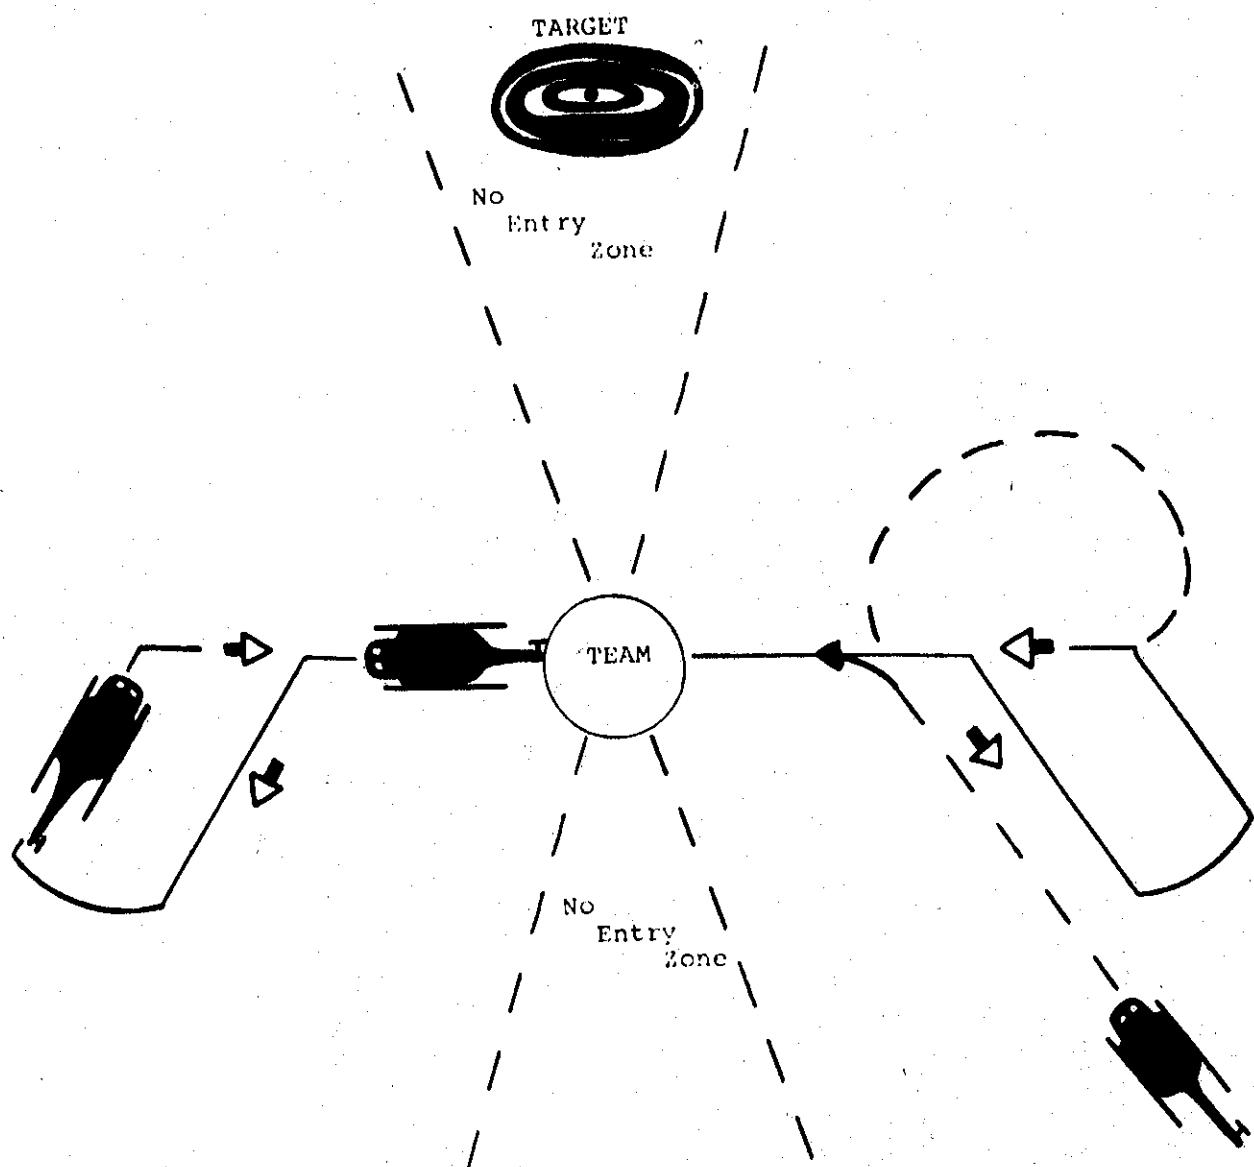

Figure 29-4. Dogbone Pattern Entered From Diving Free.
(2) As in the Figure "8" pattern, entry may be from any position (figure 29-4) using combination of mixed ordnance.